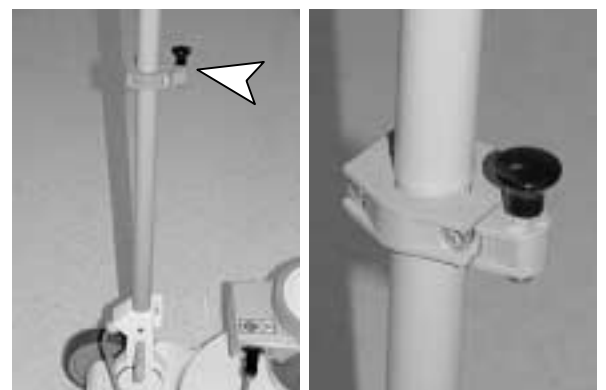

FIG. 2
1. Attach the upper solution tank support bracket to the handle as shown, do not tighten screws at this time, 5mm allen wrench required (Figure 2).